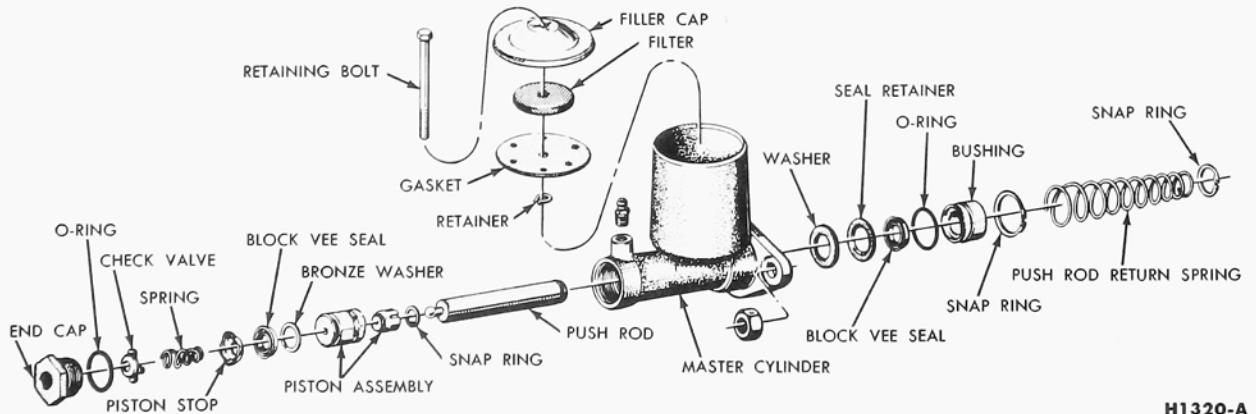

FIG. 18—F-350 Dash-Mounted Master Cylinder Disassembled
cylinder, loosen the retaining bolt, and remove the filler cap, filter and gasket assembly (Fig. 18). Pour out any brake fluid remaining in the cylinder or reservoir.
6. Remove the "Block Vee" type seal and bronze washer from the piston (Fig. 18).
1. Install the bronze washer and the "Block Vee" type seal on the piston assembly (Fig. 18).
4. Install the O-ring on the end cap. Install the piston stop, spring, check valve, and the end cap in the front end of the cylinder (Fig. 18).
7. Slide the return spring onto the master cylinder push rod, compress the spring, and install the retaining snap ring (Fig. 18).